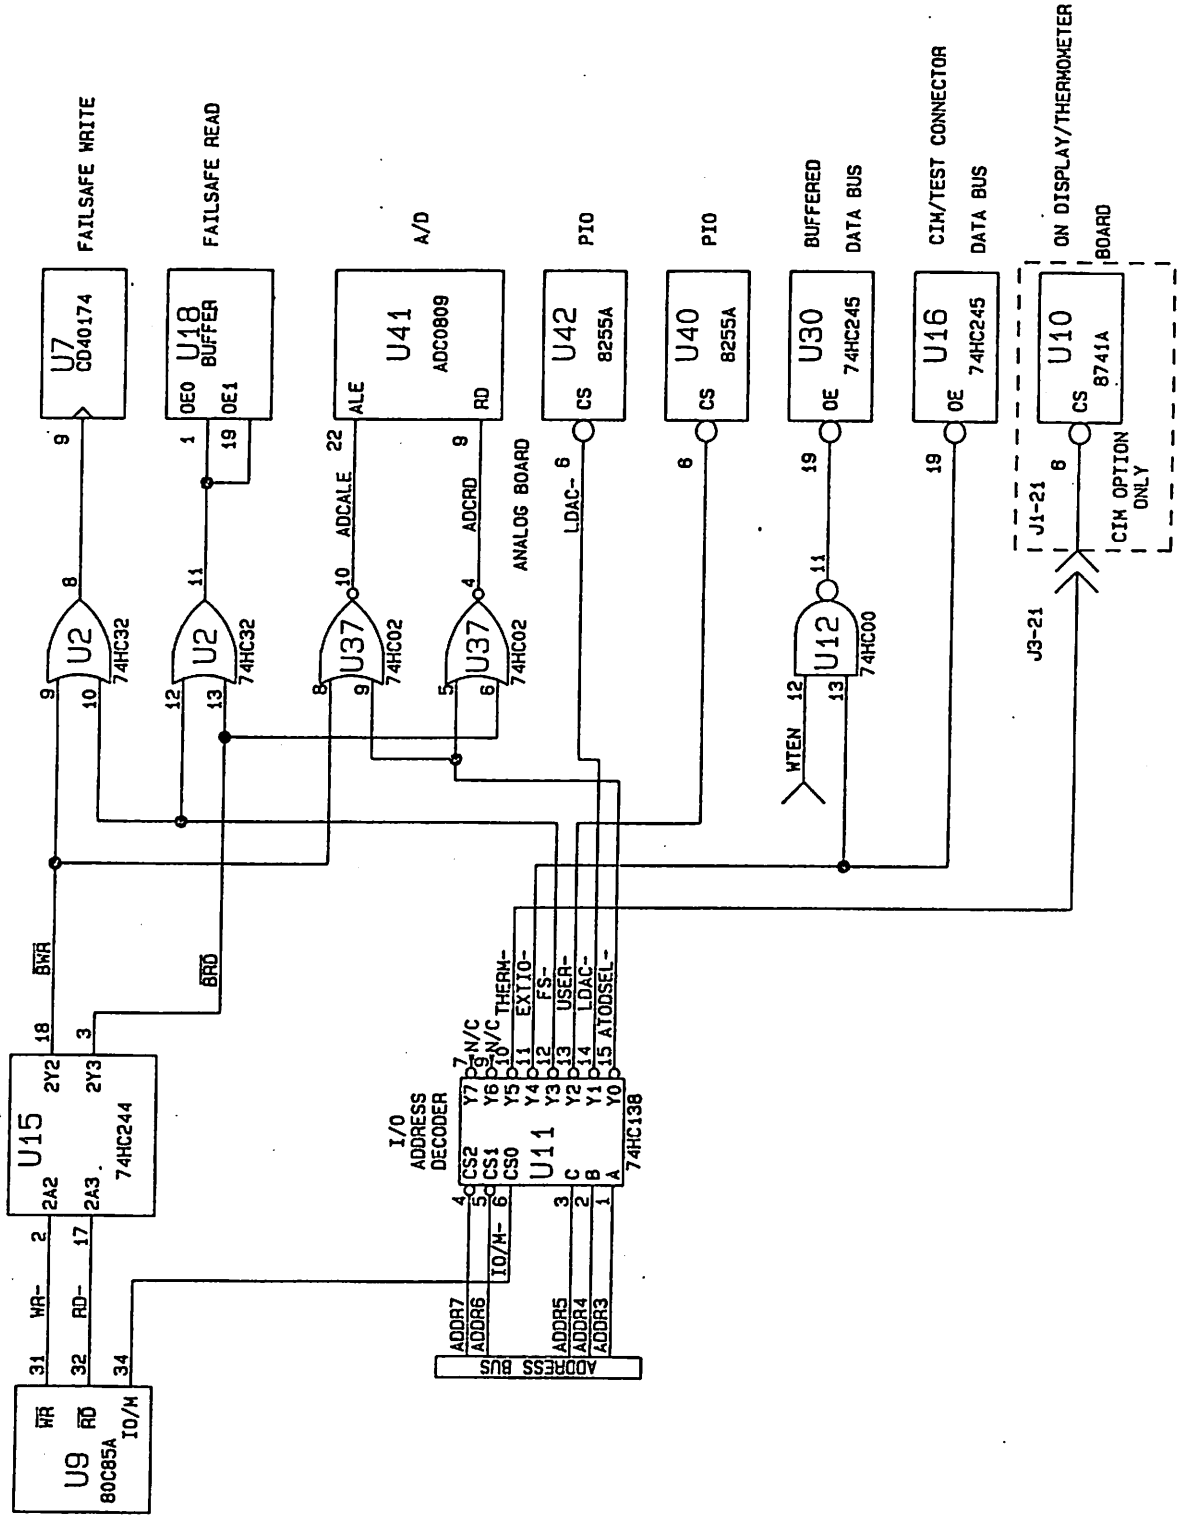

Figure 3-10. I/O Address Decoding
3.4 I/O ADDRESS DECODING (U11, figure 3-10)
3.4.1 A/D Converter Port (U41, figure 3-10)
3.4.2 Pneumatic Control Port (U42, figure 3-10)
3.4.3 User Interface Port (U40, figure 3-10)
3.4.4 Temperature Display Interface Port (U10 - Display/Thermometer Board, CIM Option Only, figure 3-10)
3.4.5 Failsafe Ports (U18, U7 figure 3-10)
3.4.6 CIM/Test Connectors (figure 3-10)